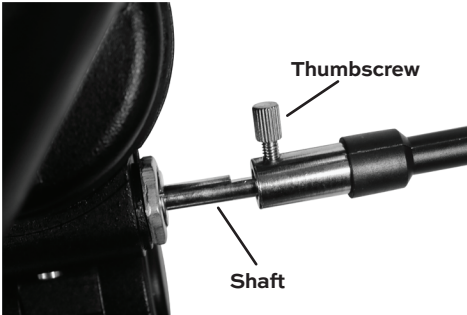

Figure 2.7
7. Locate the slow-motion controls (Item F) and loosen the thumb screws – being careful not to remove them. On the mount head are shafts, onto which you will attach these controls. The shafts have a flat side. Orient the controls so the thumbscrews are on top of the flat part of the shafts (Figure 2.7). Tighten the thumbscrews. The longer control attaches to the declination shaft (near the top of the mount), while the shorter one attaches to the right-ascension shaft (Figure 2.8).